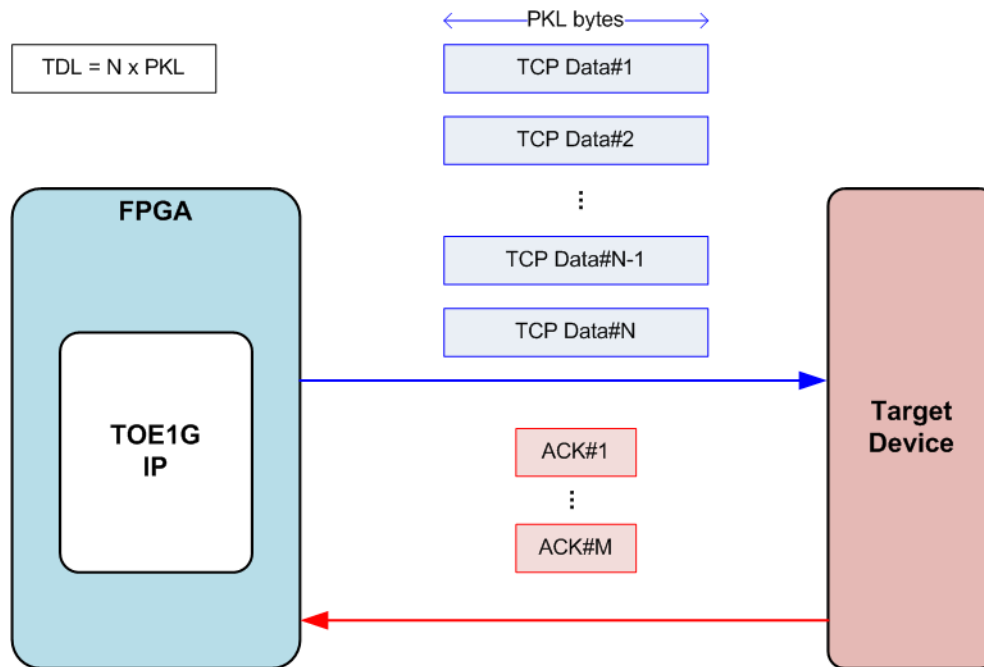

Figure 14: TCP packet when TDL = N times of PKL
If TDL value is equal to N times of PKL value, the user data is split into N packets and transmitted to the target device, as shown in Figure 14. If the target device responds with an ACK packet for each TCP packet, there will be N ACK packets in the network system. To improve network performance, several ACK packets can be combined into be one packet using the TCP delayed ACK technique. Therefore, the number of ACK packets returned from the target device (M) may be less than the number of data packets from TOE1G IP (N) when running the Send command. The PSH[0] value does not affect this condition. The last data packet (TCP Data#N) is sent only once.